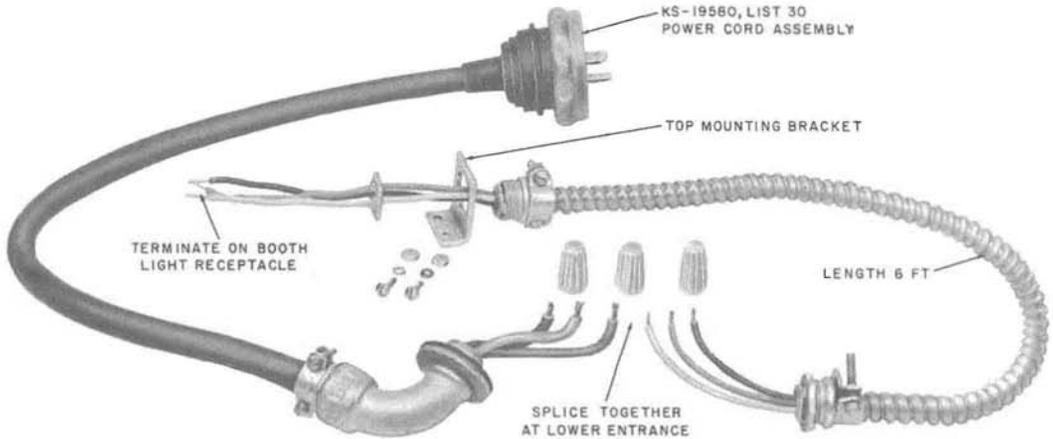

Fig. 5—KS-19580, List 31 Power Cord Group
- (b) *KS-19580, List 31 power cord group (Fig. 5)*: Used for ground level entrance where a circuit breaker is not required.